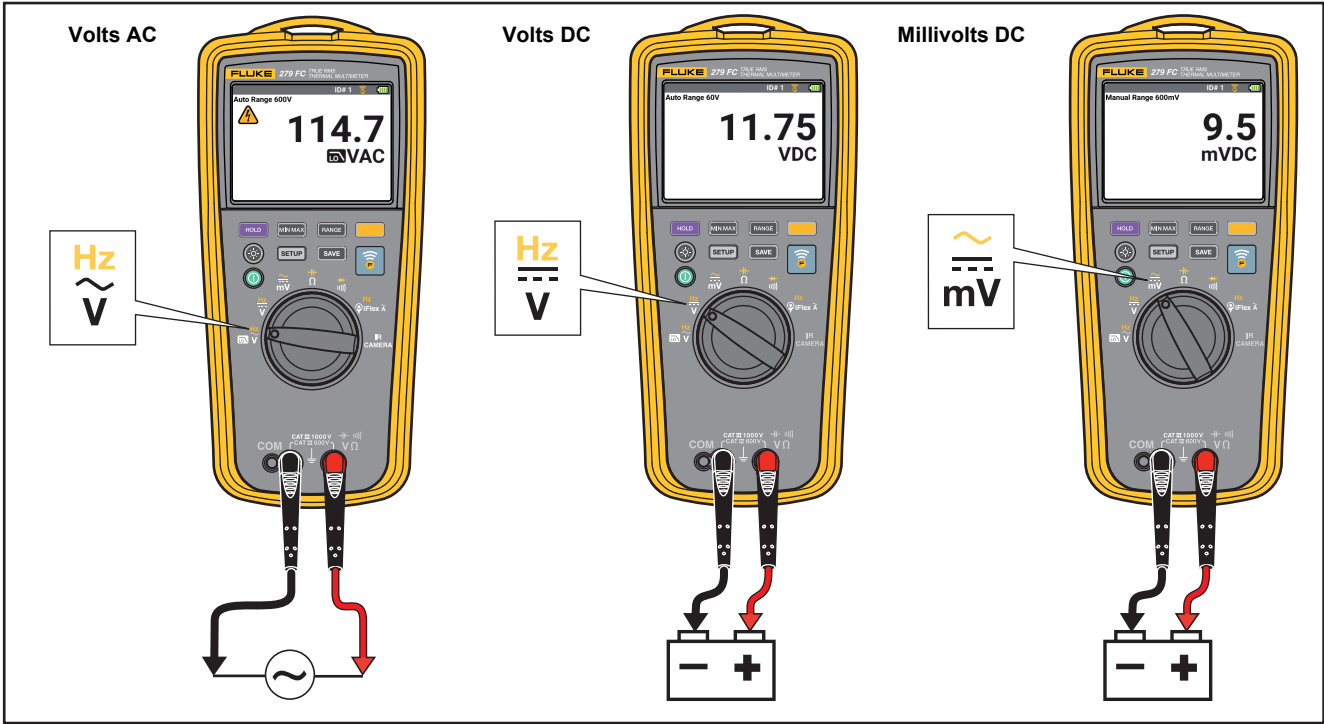

Figure 4. AC and DC Voltage Measurements
- AC and DC Voltage Measurements. See Figure 4.
1. Turn the rotary dial to  $\frac{\infty}{mV}$ . See Figure 4.